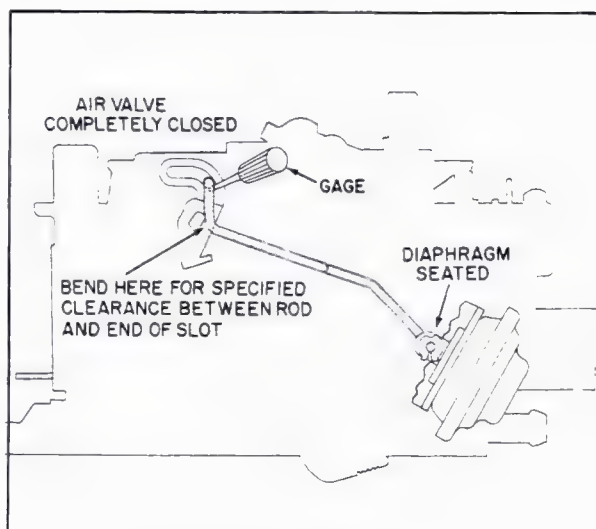

Fig. 6-80 Air Valve Adjustment
### 83. Air Valve Dashpot Adjustment (Fig. 6-80)
2. Bend rod at air valve end, Fig. 6-80, to adjust.